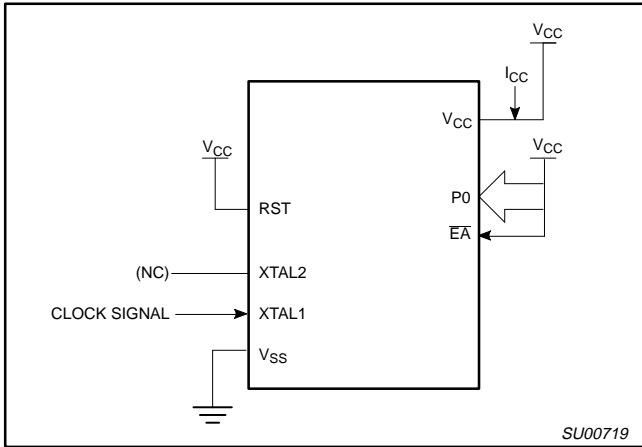

Figure 25.  $I_{CC}$  Test Condition, Active Mode
- See Figures 25 through 28 for  $I_{CC}$  test conditions.